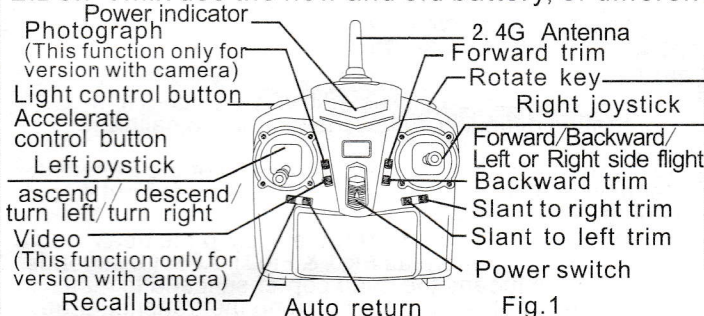

Fig.1
- 1.Functions of transmitter as Fig. 1